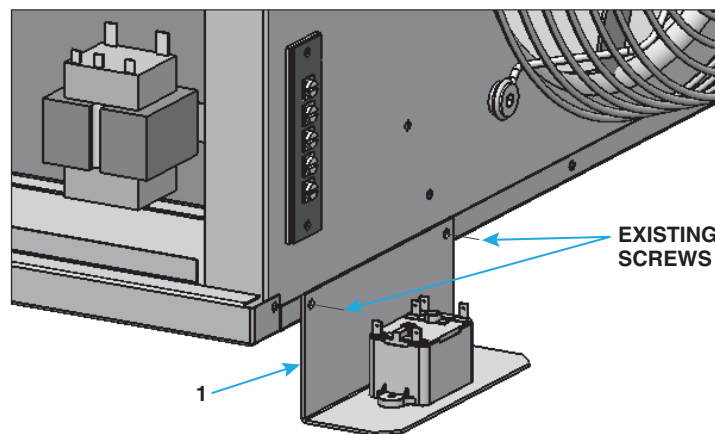

Figure 3. Relay Installation—Model EUH (Refer to Table 1)
- a. For electric unit heater model EUH (see Figure 3):
- (1) At rear of heater, remove and save screws from edge of cabinet bottom.
- (2) Secure relay assembly (1) as shown using existing screws.